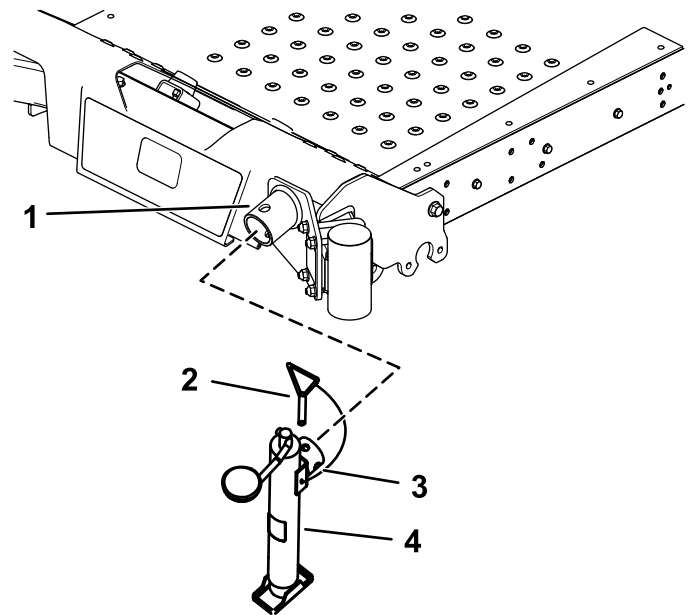

Figure 2
3. Attach the jack to the jack mount with a jack pin (Figure 2).